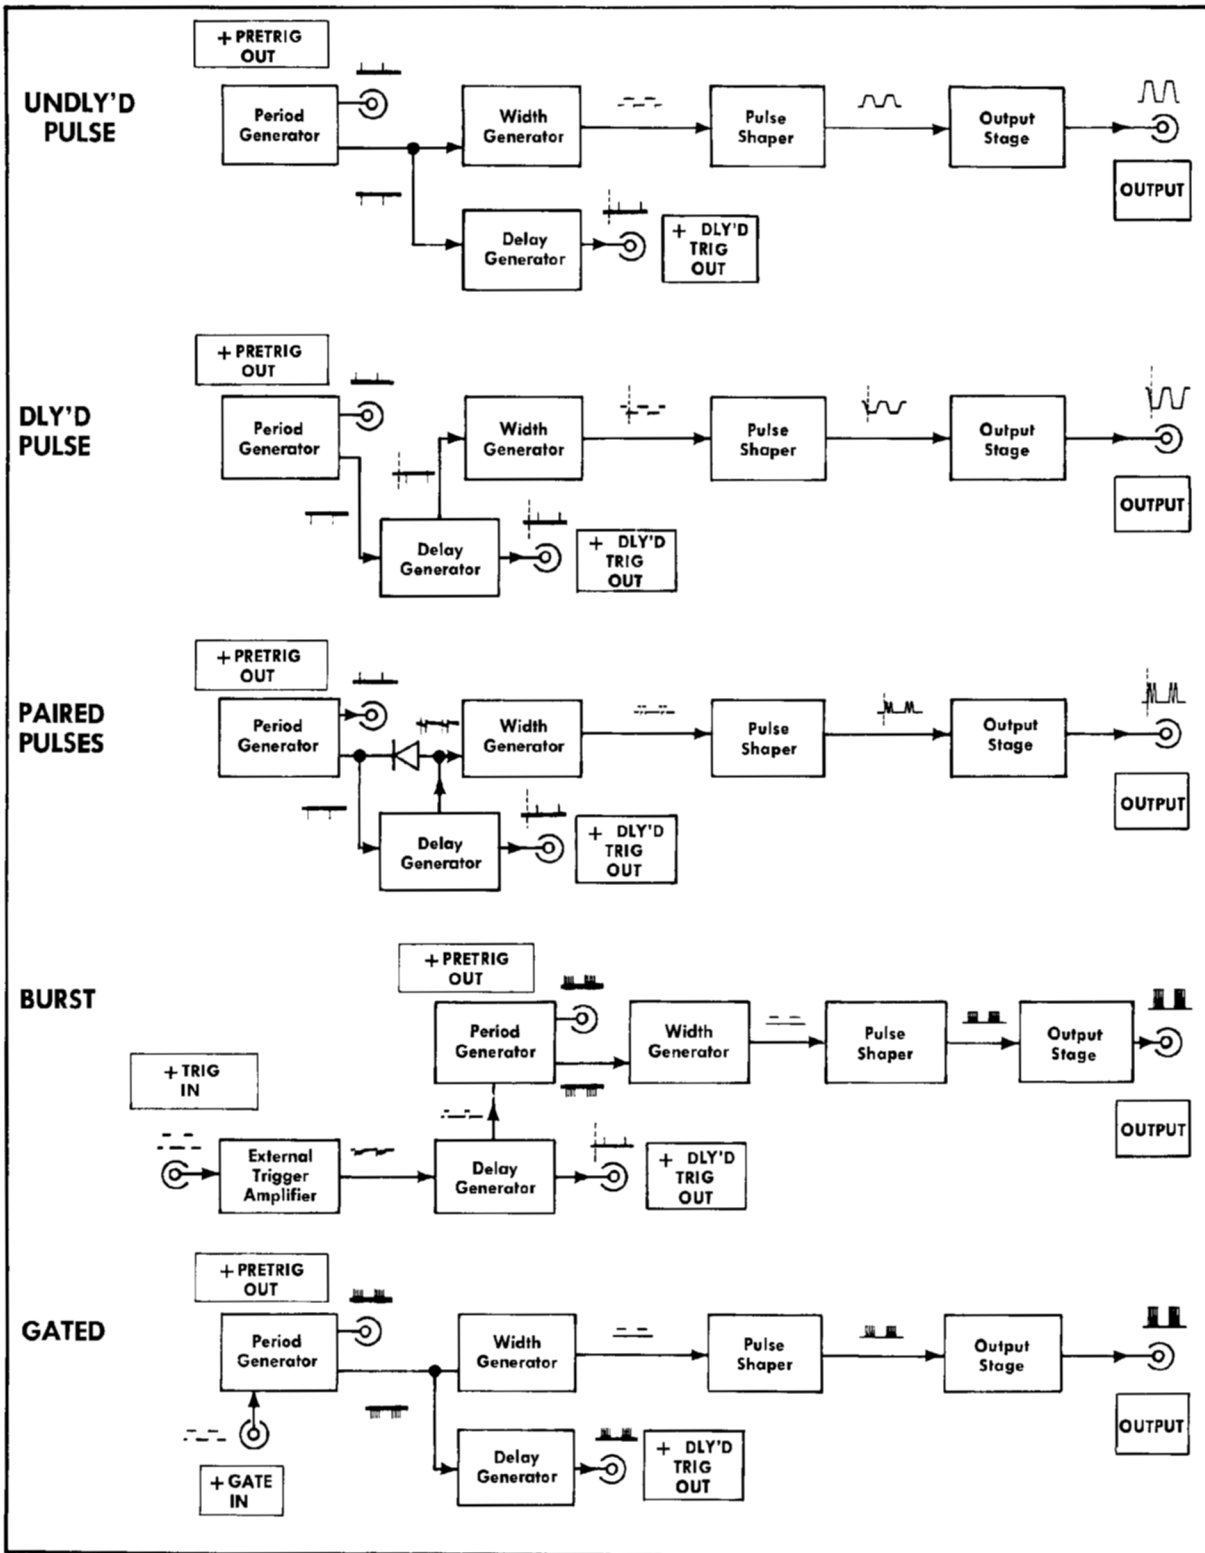
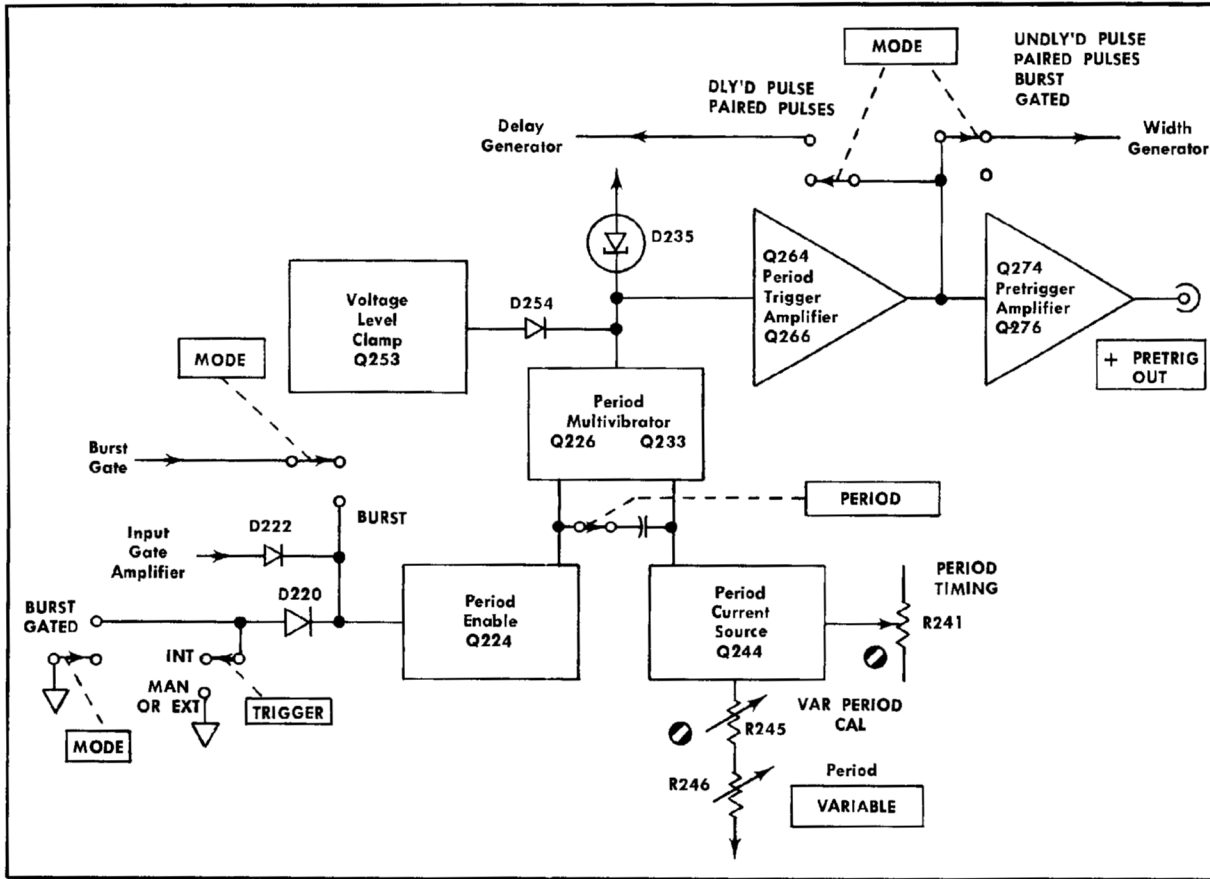
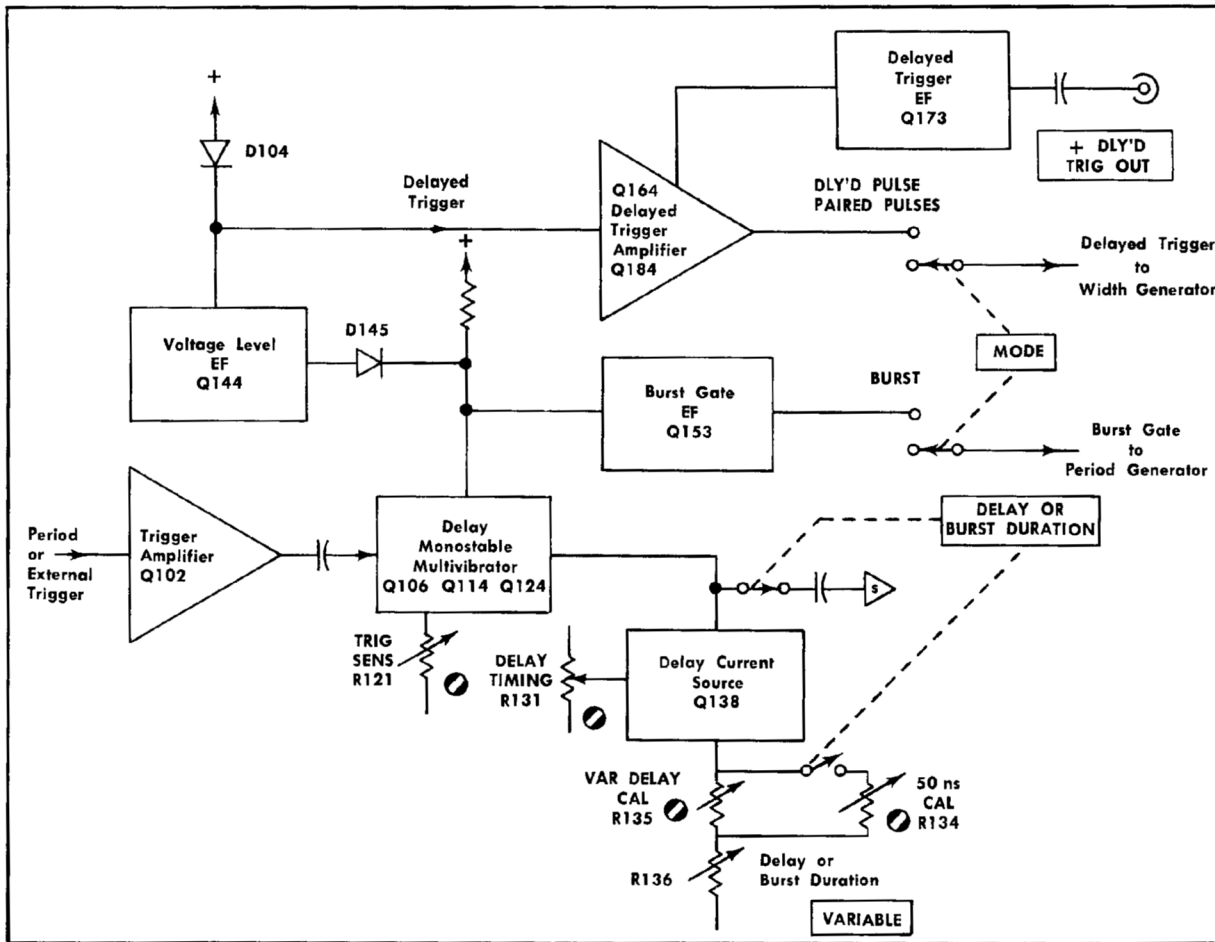

Fig. 3-2. Simplified block diagrams illustrating the generation of the five basic outputs.
Fig. 3-3. Block diagram of the period generator circuit.
Fig. 3-4. Block diagram of the delay generator circuit.
of operation are: UNDLY'D PULSE, DLY'D PULSE, PAIRED PULSES, BURST and GATED (see Fig. 3-2).
**Period Generator.** The period generator consists of multivibrator Q226 and Q233 (see Fig. 3-3), current source Q244, enabling circuit Q224, clamping circuit Q253, timing capacitors, tunnel diode D235 and trigger amplifier stage Q264, Q266, Q274, and Q276. Transistors Q226 and Q233 (see the Delay and Period Generators schematic) form an astable unsymmetrical multivibrator. It is unsymmetrical in the sense that Q226 is turned on and Q233 is turned off the majority of the time. The cycle of the multivibrator, and thus the period of the output pulse, is dependent on the capacitance of the timing capacitor switched into the circuit by the PERIOD switch and the amount of current conducted by Q244.
**Delay Generator.** The delay generator consists of input amplifier Q102 (see Fig. 3-4), multivibrator Q106, Q114 and Q124, current source Q138, timing capacitors, burst gate
**Mode and Trigger Switching.** The preceding discussion has described the formation of various timing triggers and gates. The period trigger is produced either by the free-running period generator or the external trigger amplifier; the delayed trigger and burst gate are produced by the delay generator and the gated mode gate is produced by the input gate amplifier. The MODE and TRIGGER switches determine how these various circuits are enabled to produce these triggers and gates and also determines when and where these assorted signals are applied. See Fig. 3-2, Fig. 3-3 and Fig. 3-4 and the schematics for the External Trigger Amplifier and the Period and Delay Generators while reading the following.